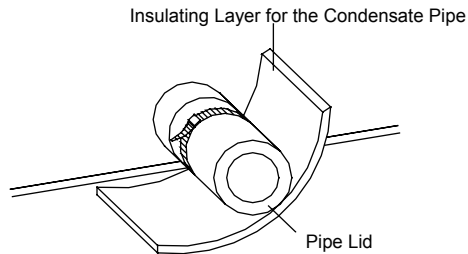

Fig. 13 Thermal Insulation of the Condensate Pipe
- (1). The condensate pipe should sloped at angle of $5 \sim 10^\circ$, to easily drain condensate water. And the joints of the condensate pipe should be insulated to prevent condensation (see Fig. 13).